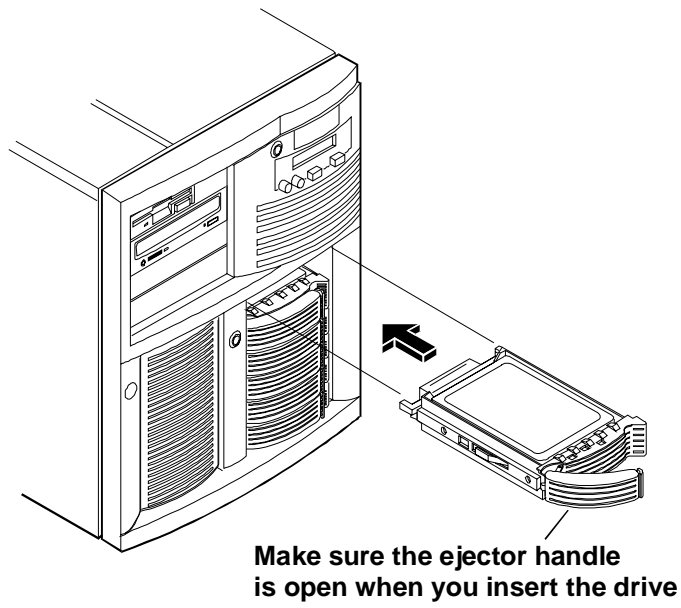

Figure 6-5. Installing a Drive in the HP NetServer LH 4
- Slide the drive slowly into the location until it stops (see Figures 6-5 and 6-6).